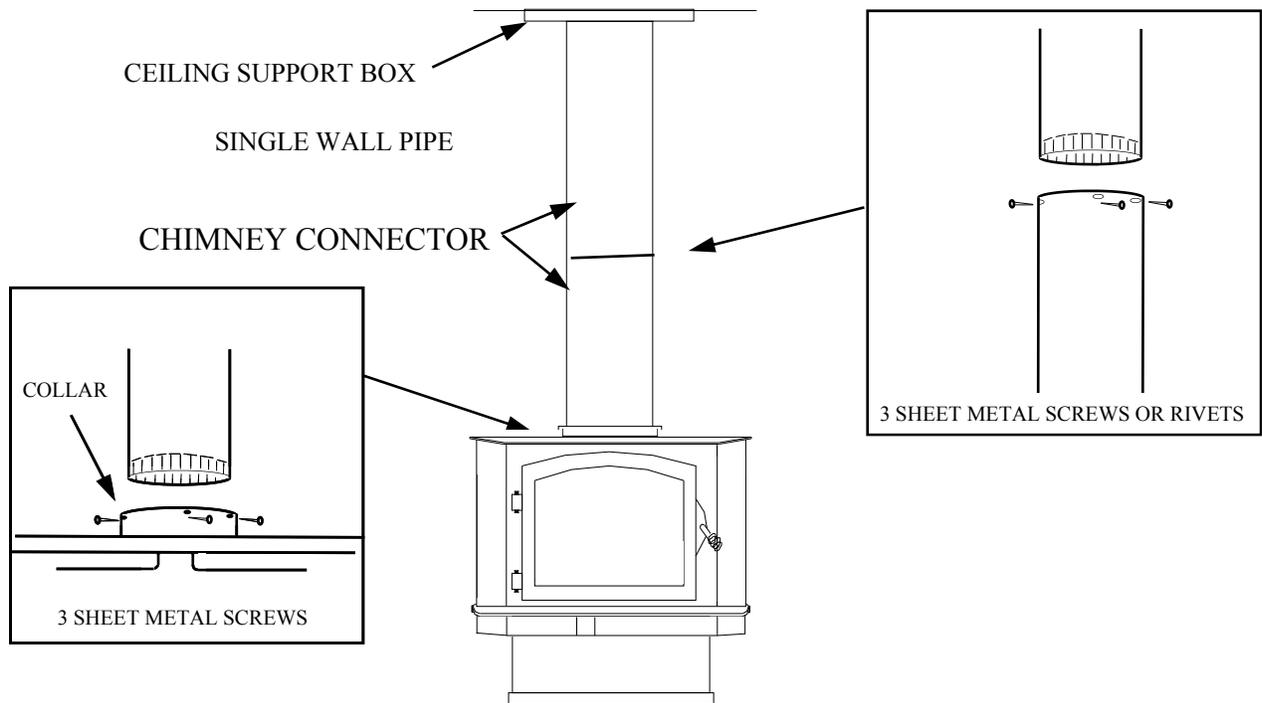

Figure 8
- (c) Secure each section to each other using at least three (3) sheet metal screws or rivets.
- (d) Use three (3) sheet metal screws to fasten pipe to connector collar on heater.
3. Now connect stove and ceiling support box using #24 ga. minimum blued or black steel connector pipe. (**DO NOT USE GALVANIZED PIPE.**) Connect each section so crimped end faces downward, and secure each section to each other using at least three (3) sheet metal screws or rivets. Next, install an optional New Buck Corporation chimney connector to flue exit of the heater or you may use "EII" brackets to fasten the pipe to stove. (See Figure 8. Page 19).